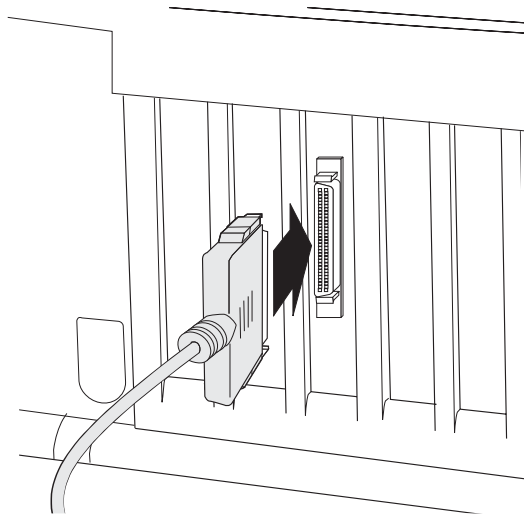

Figure 2-7. Attaching an External Cable to the External SCSI Connector
- 2 If you are connecting 8-bit external SCSI devices, attach one end of the 50-pin cable to the 50-pin external SCSI connector of the expansion kit. If you are connecting 16-bit external SCSI devices, attach one end of the 68-pin cable to the 68-pin Ultra Wide external SCSI connector of the expansion kit (shown in Figure 2-7.)